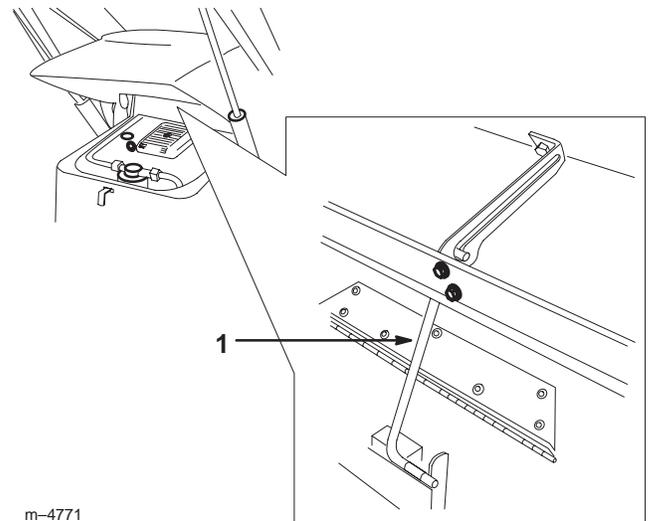

Figure 17
1. Pull up on the bar securing the hood in the open position and lower the hood (Fig. 17).